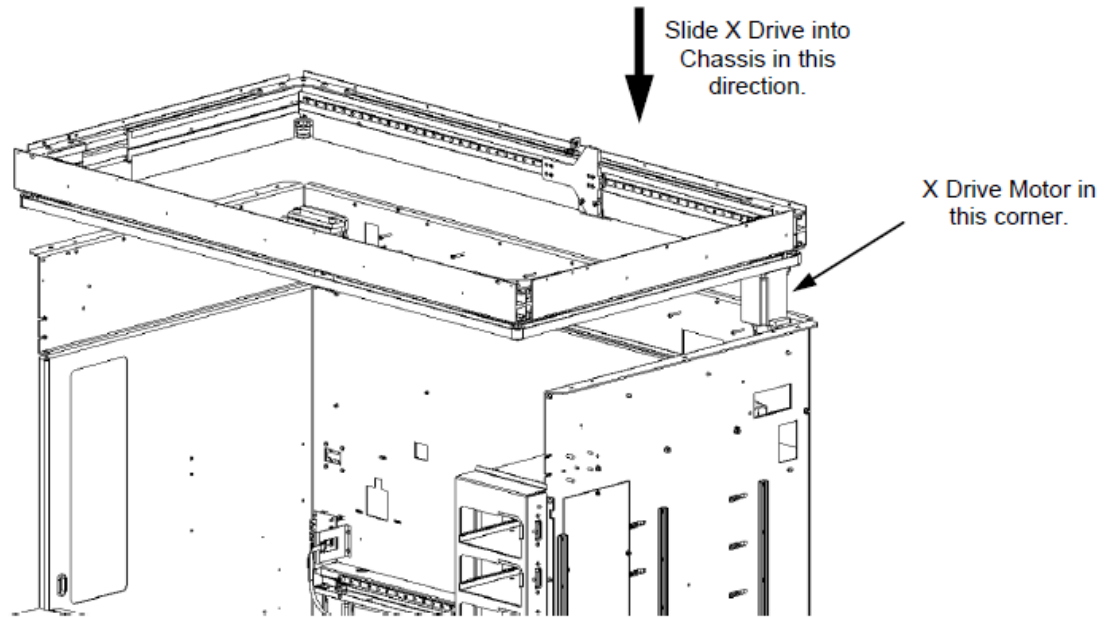

Figure X-19: Replacing the Transport Arm X Drive Assembly
1. Slide the Main X Drive assembly into the chassis from above as shown in Figure X-19. The X Drive extrusion should sit on standoffs on the inside of the chassis.